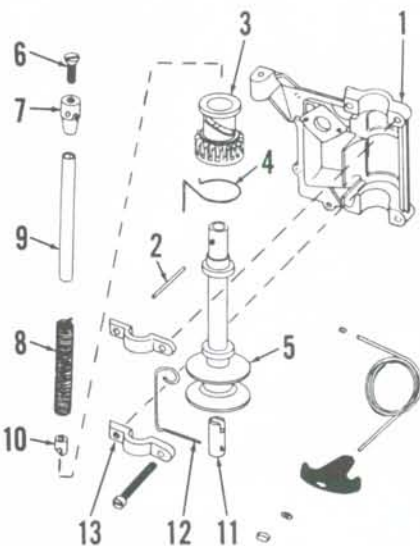
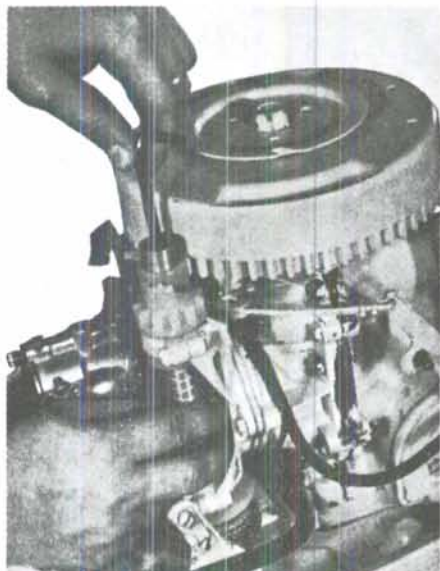

Fig. C2-9—Exploded view of recoil starter assembly.
Fig. C2-10—View of special "Tee" handle tool (No. T-3139) for removing and installing starter recoil spring assembly.
Fig. C2-9 shows an exploded view of the recoil starter assembly. Starter pinion (3) engages a starter ring gear on the flywheel.
then wind rope on spool and install spool. Rope guide (12) should be installed with end through hole in retainer extension (11) and attached by screw retaining the lower bearing cap. Install the recoil spring assembly, and drive pinion (3). Use the "T" handle tool to wind the recoil spring counterclockwise eight turns as shown in Fig. C2-10. Align the holes in pinion (3—Fig. C2-9), spool (5) and spring drive (7); then insert the drive pin (2). Remove the tool and reinstall the locking screw (6). Recoil spring cavity of starter spool (5) should be filled with lubriplate or a similar grease when re-assembling.